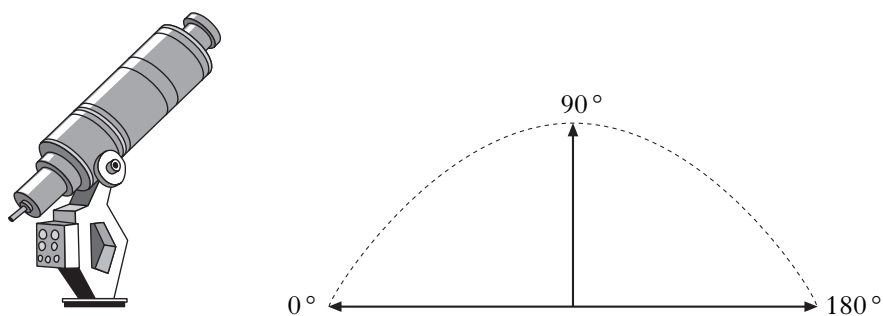

Figure Q2(a)
2. An astronomical telescope is shown in Figure Q2(a).